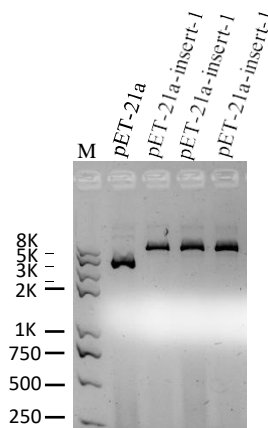

Figure 5. pET-21a is the empty circle vector as the negative control, and the pET-21a-inserts are the successful recombinant vectors (3 colonies)
- 5) The next day, pick individual isolated colonies from each experimental plate. Isolate plasmid DNA using a standard method of your choice (e.g. miniprep). To determine the presence of an insert, analyze the DNA by restriction digestion or PCR screening. (the results should be as shown in figure 5).